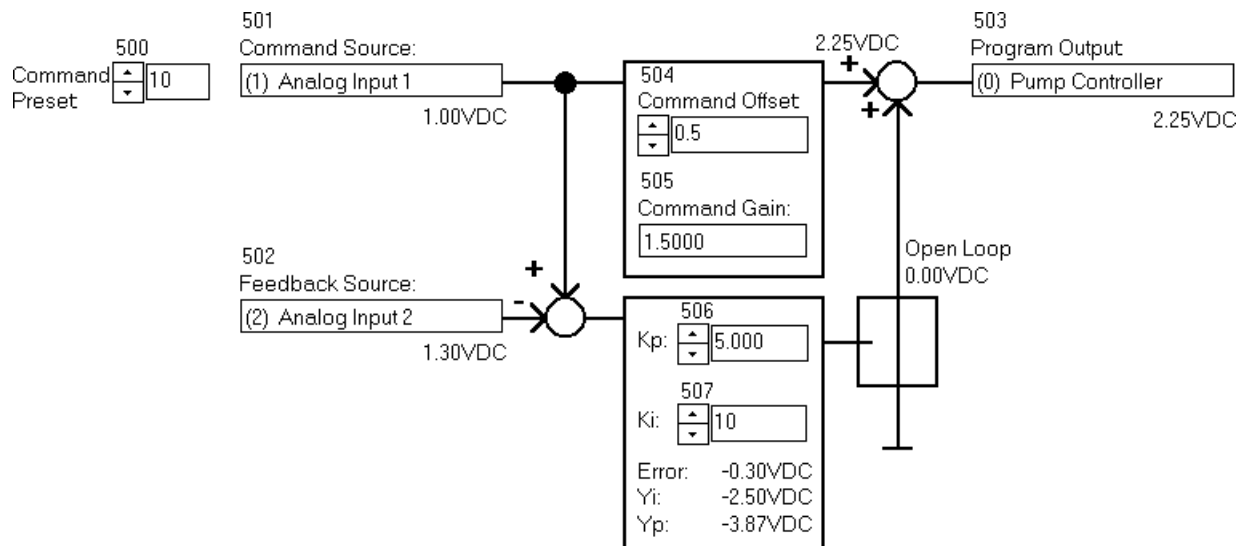

Figure 12: Advanced Control with Feed-Forward Program in Open Loop
Example: Figure 12 shows Program 11 Form for Advanced Control with Feed-Forward in Open Loop. The Command is offset and multiplied by the gain: $(1.00V + 0.5V) \times 1.5 = 2.25V$. This Feed-Forward Command is then summed with the Open Loop output: $2.25V + 0.0V = 2.25V$. Finally, the Program Output is set to the Pump Controller (program item 503=0).